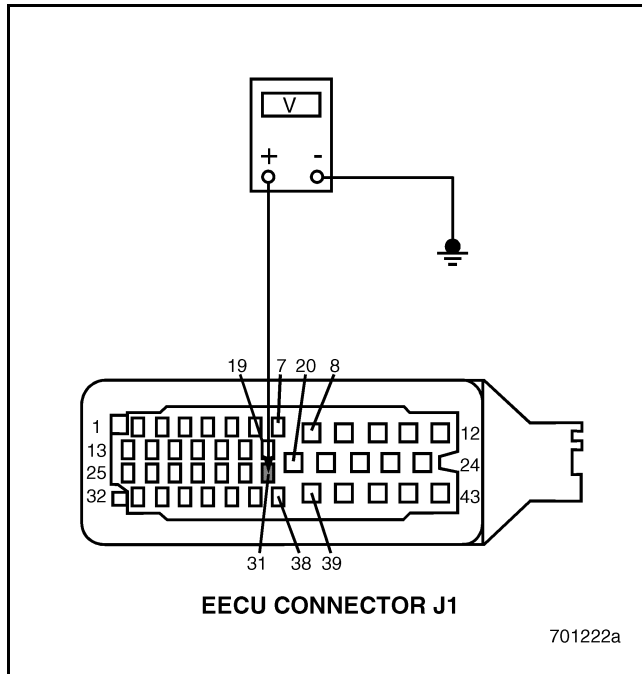

Figure 355
4. Measure the voltage between EECU connector J1 pin 31 and a good ground (see Figure 355).